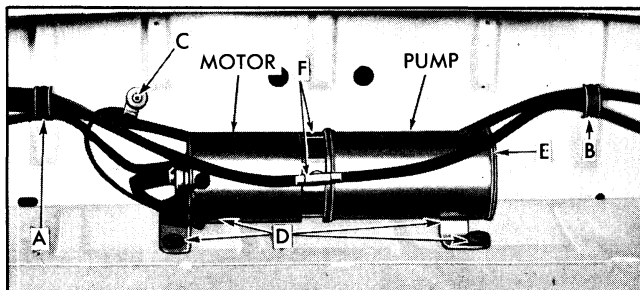

Fig. 22-58 Hydro-Lectric Motor and Pump Assy.
the Convertible bodies, consists of a 12 volt reversible type motor, a rotor-type pump, two hydraulic lift cylinders, and an upper and lower hydraulic hose assembly. The unit is installed in the body directly behind rear seat back Fig 22-58.
6. Remove clips securing wire harness and hydraulic hose to rear seat back panel. See "A" and "B" in Fig. 22-58.
7. Disconnect motor leads from wire harness and ground attaching screw. See "C" in Fig. 22-58.
8. To facilitate removal apply a rubber lubricant to pump attaching grommets; then carefully disengage grommets from floor pan. See "D" in Fig. 22-58.
10. With a straight-bladed screw driver, vent reservoir by removing filler plug; then reinstall plug. See "E" in Fig. 22-58.
11. Disconnect hydraulic lines and cap open fittings to prevent leakage of fluid. See "F" in Fig. 22-58. Use a cloth to absorb any leaking fluid, then remove unit from rear compartment.
- a. Check connection of motor ground wire to body metal. See "C" in Fig. 22-58.